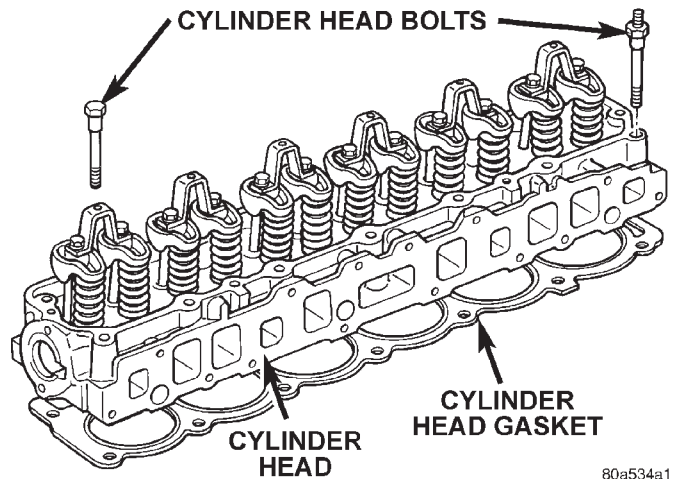

Fig. 35 Engine Cylinder Head Assembly
- (6) Remove the push rods. **Retain the push rods, bridges, pivots and rocker arms in the same order as removed.**
- (7) Loosen the serpentine drive belt at the power steering pump, if equipped or at the idler pulley (refer to Group 7, Cooling System for the proper procedure).
- (8) If equipped with air conditioning, remove the air conditioning compressor, (refer to Group 24, Heating and Air Conditioning).
- (9) If equipped, disconnect the power steering pump bracket. Set the pump and bracket aside. **DO NOT** disconnect the hoses.
- (10) Perform the Fuel System Pressure Release procedure (refer to Group 14, Fuel System).
- (11) Remove the fuel lines.
- (12) Remove the intake and engine exhaust manifolds from the engine cylinder head (refer to Group 11, Exhaust System and Intake Manifold for the proper procedures).
- (13) Disconnect the ignition wires and remove the spark plugs.
- (14) Disconnect the temperature sending unit wire connector.
- (15) Remove the ignition coil and bracket assembly.
- (16) Remove the engine cylinder head bolts. Bolt No.14 cannot be removed until the head is moved forward (Fig. 35). Pull bolt No.14 out as far as it will go and then suspend the bolt in this position (tape around the bolt).
- (17) Remove the engine cylinder head and gasket (Fig. 35).
- (18) If this was the first time the bolts were removed, put a paint dab on the top of the bolt. If the bolts have a paint dab on the top of the bolt or it isn't known if they were used before, discard the bolts.
- (19) Stuff clean lint free shop towels into the cylinder bores.